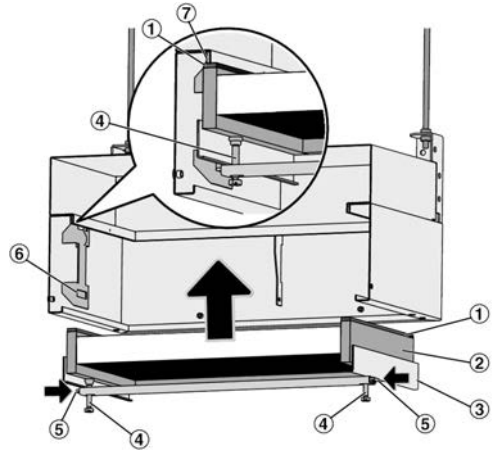

Fig. 5: Inserting filters
1. ▶ Remove the clamping frame (Fig. 5/3) from the particulate filter module. To do so, loosen the clamping screws (Fig. 5/4), then press the release buttons (Fig. 5/5) in; remove spacers, if any (spacers are used to fix the clamping frame during transport of the unit).
2. ▶ Set the filter element (Fig. 5/2) with the seal (Fig. 5/1) facing upwards into the clamping frame.
3. ▶ Push the clamping frame with the filter element into the casing. Ensure that the release buttons snap into the recesses on both sides (Fig. 5/6).
4. ▶ Turn in the clamping screws evenly so that the filter is pressed against the test groove (Fig. 5/7); max. torque 2 Nm.